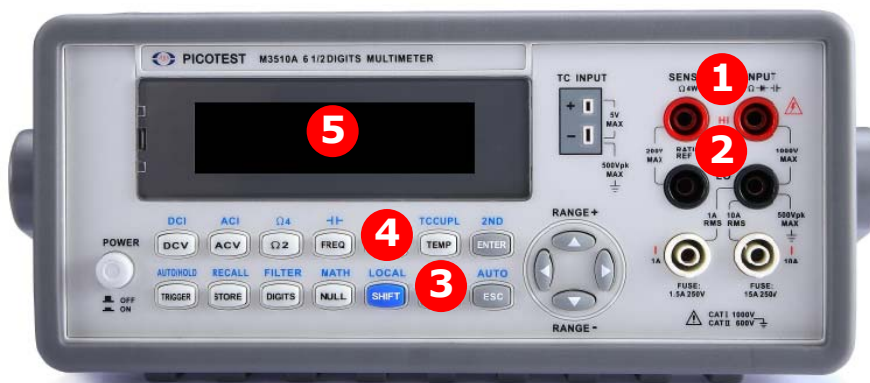

Figure 3-6
1. Connect the test leads to the terminals on the front panel as shown in **Figure 3-6**.